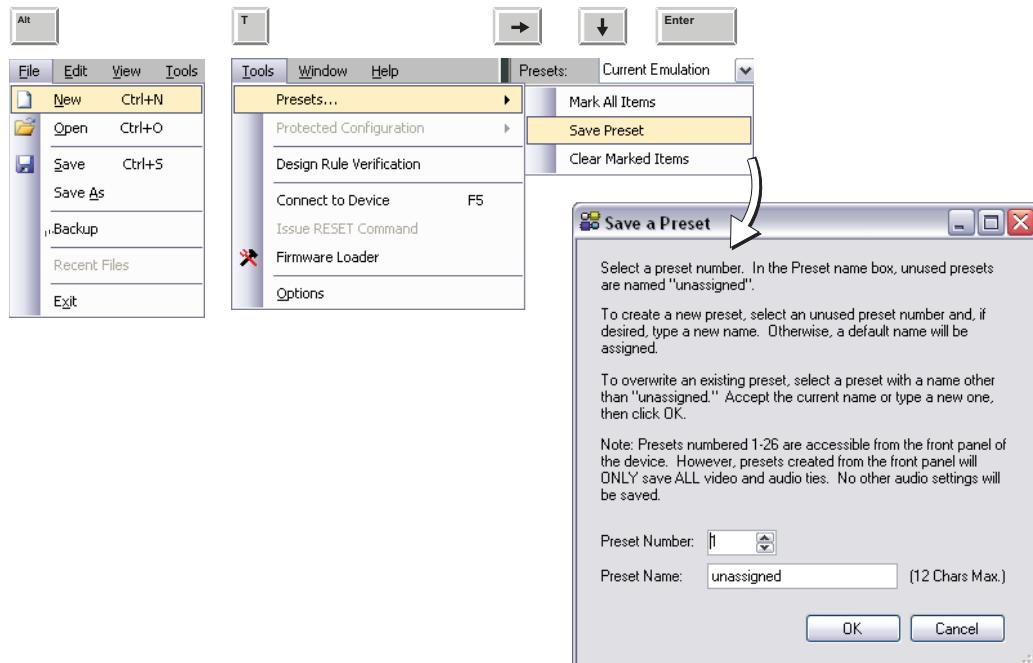

Figure 57. Saving a Preset Using Keyboard Navigation
6. **To save a preset**, press <Alt +T>, <Right Arrow>, <Down Arrow>, then <Enter>, (see figure 57 below).